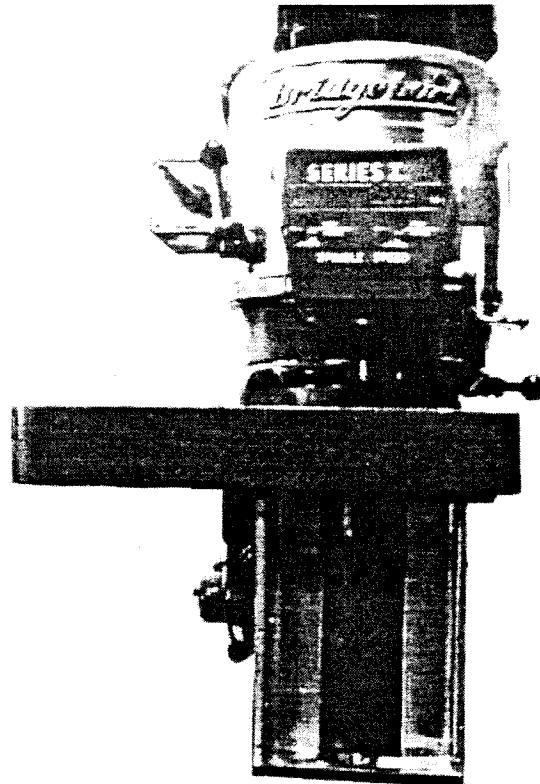

Figure 6
23. Place the top housing on the top of the lower assembly. **See Figure 6**